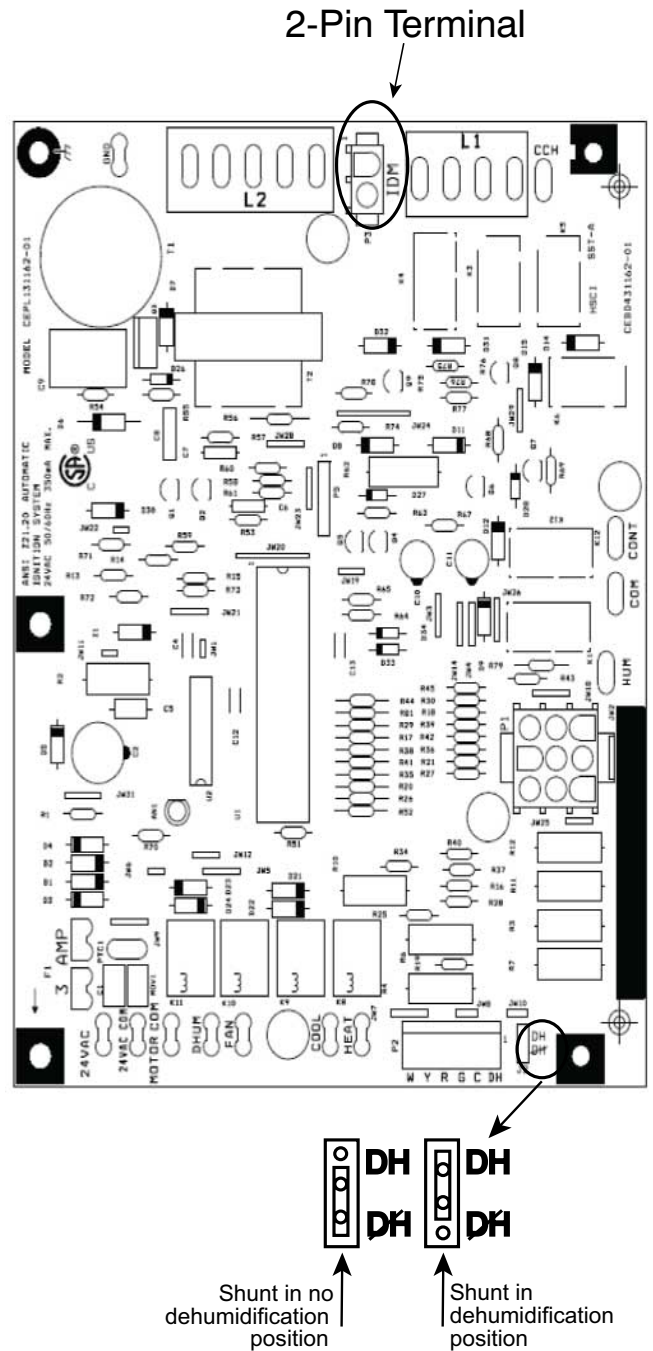

Fig. 22 – Ultra Low NOx IGC Board
This unit is factory-set for use with a single cooling fan speed. For single phase models, the cooling speed is marked “COOL” on the IGC (See Fig. 22). The factory-shipped settings are noted in Table 11. There are up to 3 additional speed tap wires available for use in either gas heating mode, cooling mode, or continuous fan mode (For color coding on the indoor fan motor leads, see Table 9). For single phase models, one of the additional speed tap wires is connected to the continuous fan, with the other 2 wires shipped loose in the control box near the IGC. For three phase models, the additional 3 speed tap wires are shipped loose with vinyl caps and are located in the control box near the interface fan board (IFB) (See Fig. 22).
1. Move shunt jumper on IGC board to “DH” (See Fig. 22).
Continuous Fan Speed must meet or exceed the Required Minimum Dissipation Airflow (Table 1), Continuous fan speed selected must be connected to "FAN" terminal on IGC Board (Fig. 22).